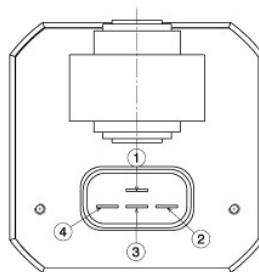

Fig.9
- 6) Open the door manually to the desired open position, slide the collar stopper along the arm **(Fig.9 Page 5)** up to the front cover plate, fixing its position with the Allen key. The hydraulic transmission can then be plugged in and started. Re-position the collar stopper to achieve the desired opening and closing positions.